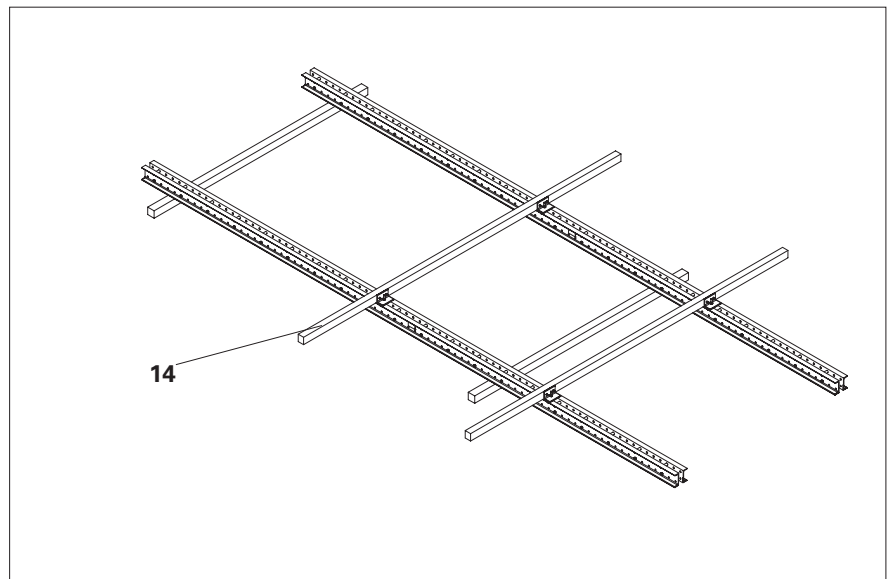

Fig. E1.06
5. Remove the enclosure beam (**14**) from the climbing rails. (Fig. E1.06)